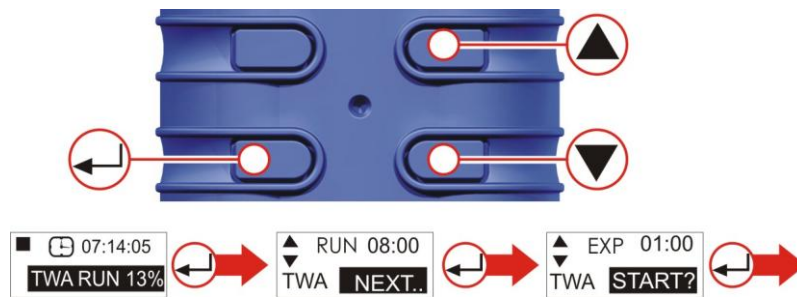

Figure 8 Time Weighted Average
**E. TIME WEIGHTED AVERAGE (TWA) PRO and PLUS ONLY** (Fig. 8) (Only activated when advanced mode is selected-see configuration chapter)